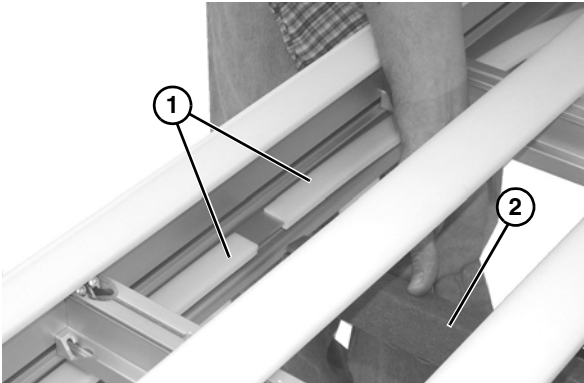

Figure 27
2. Remove lower wear strips (**Figure 27, item 1**), and if necessary, lower belt return (**Figure 27, item 2**) from lower frame assembly.